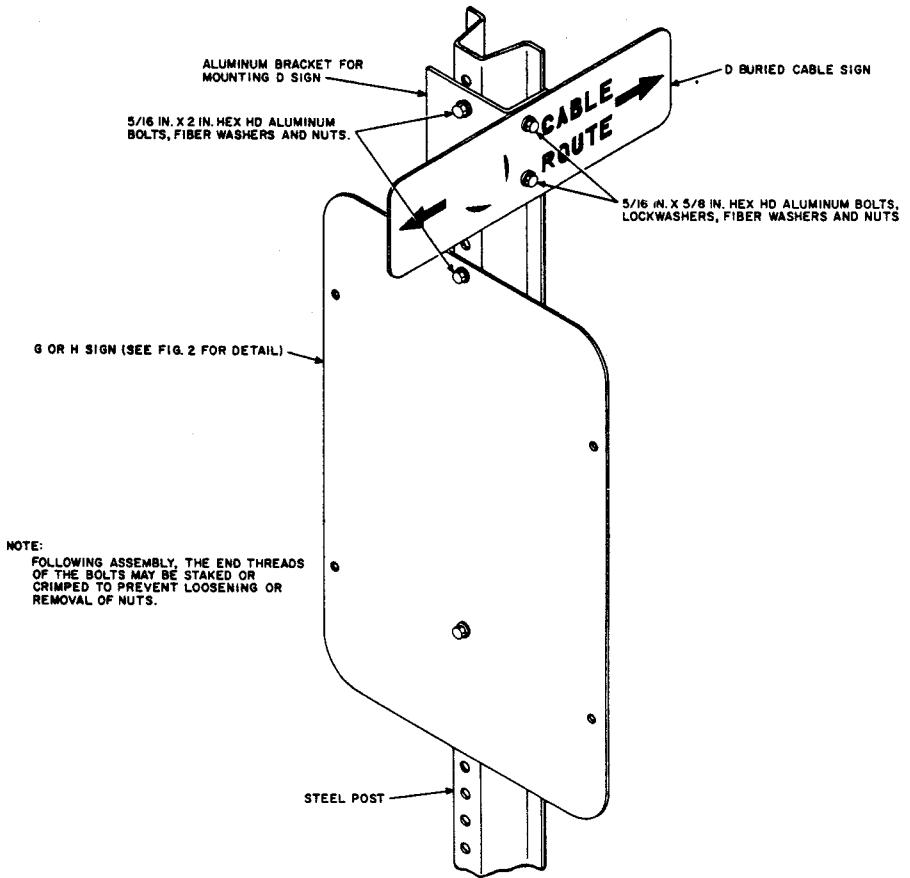

Fig. 10—G and H Buried Cable Sign Installed on Steel Post
- 5.07** An example of the installation of a G buried cable sign on a steel post is shown in Fig. 10.